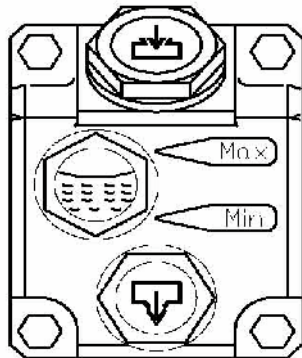

Figure 1
- \* When checking the oil level use the sight gauge shown in **figure 1 below**. The level should be between the arrows indicating Minimum and Maximum. If the level is below the minimum arrow add oil until the maximum arrow is reached.